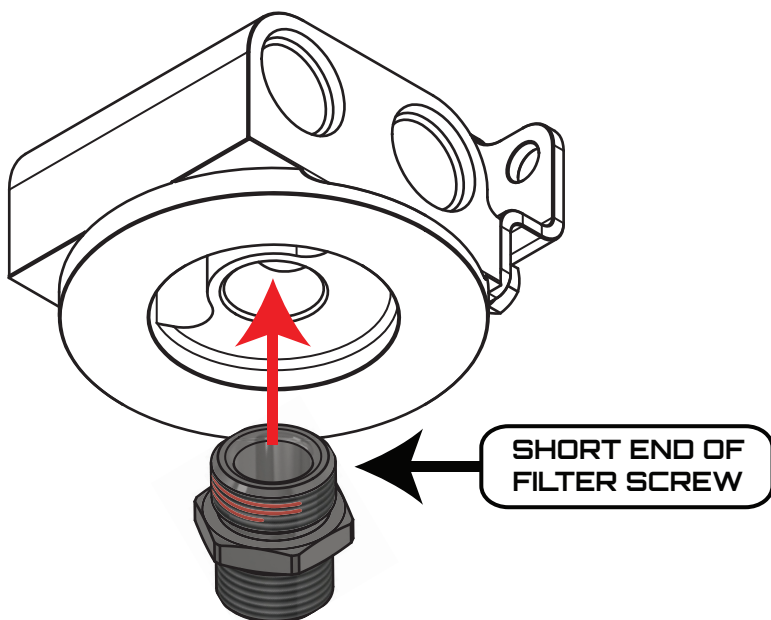

Figure 4 - Screw the Filter Screw into the Filter Housing
3. Screw the short end of the HSC-10XX filter screw into the ENV-140 as shown in Figure 4 and torque to approximately **25 lb-ft (34 N-m)**. Allow at least 10 minutes for the thread locker to set. It will be fully cured in 24 hours.